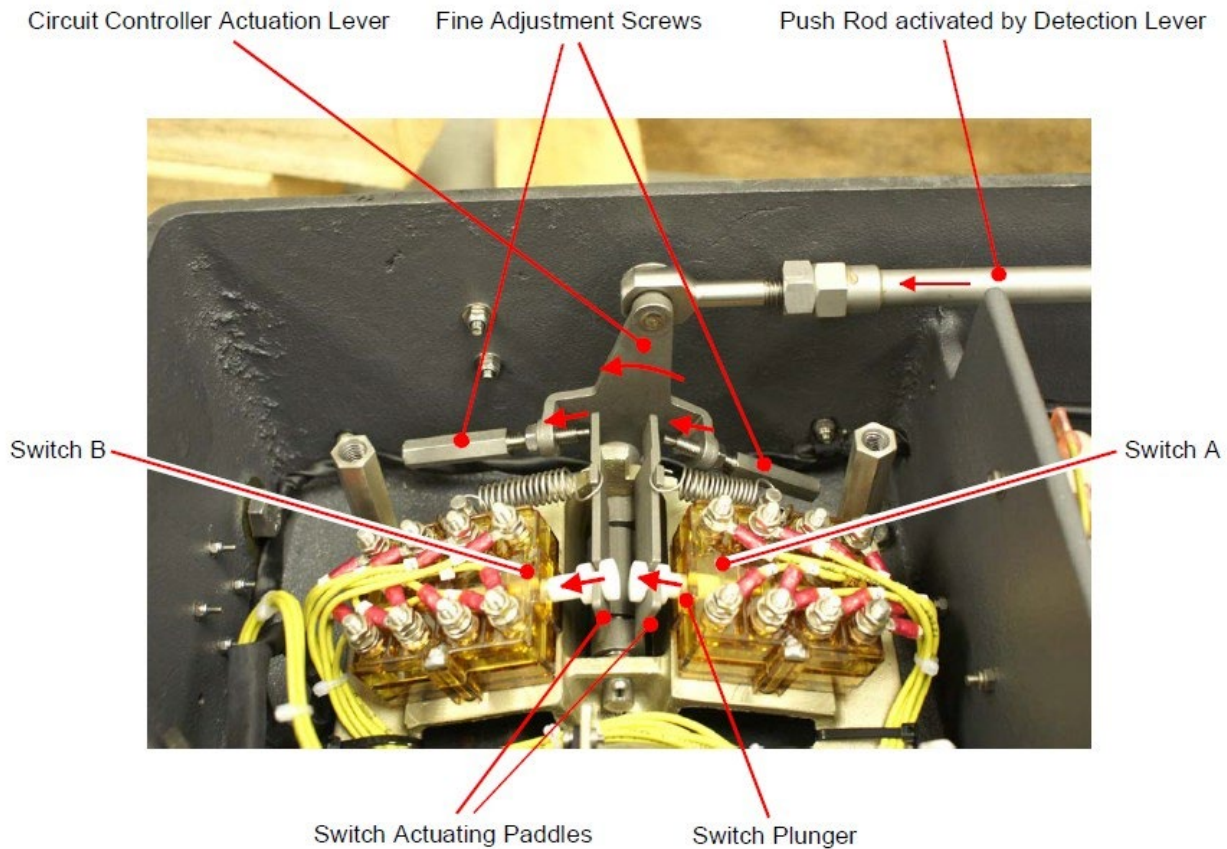

Figure 5 – Circuit Controller Detail
- c) At Circuit Controller Switches (Figure 5), use a voltmeter to check for the presence of the detection voltage between Switch A terminals 3 and 7.